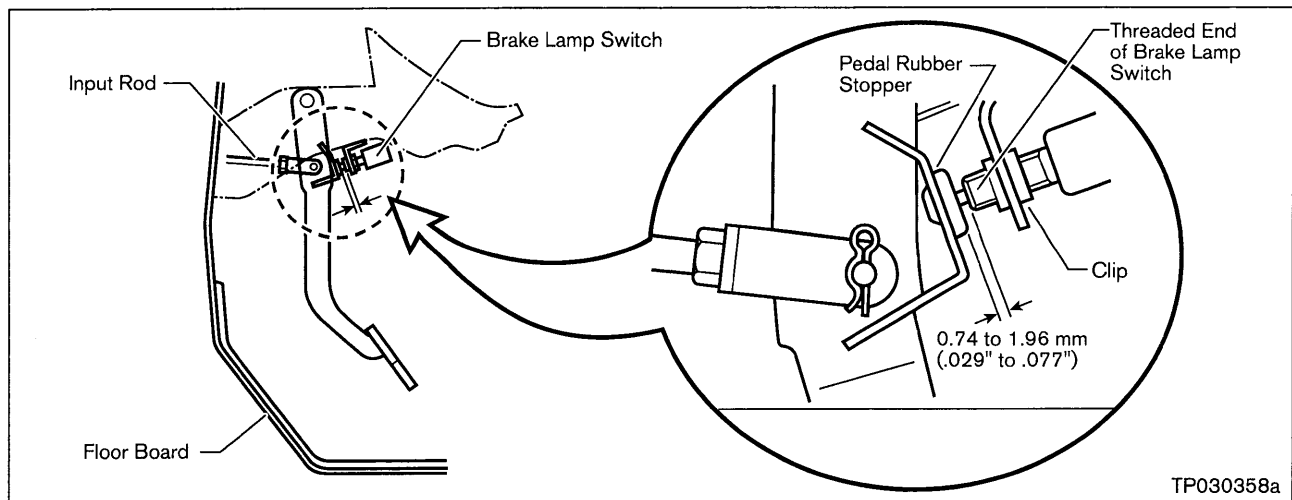

Figure 7
5. Use a "Feeler Gauge" (or other suitable tool) to check the clearance between the Pedal Rubber Stopper and the threaded end of the Brake Lamp Switch (see Figure 7). Make sure it is within the clearance specification shown below.